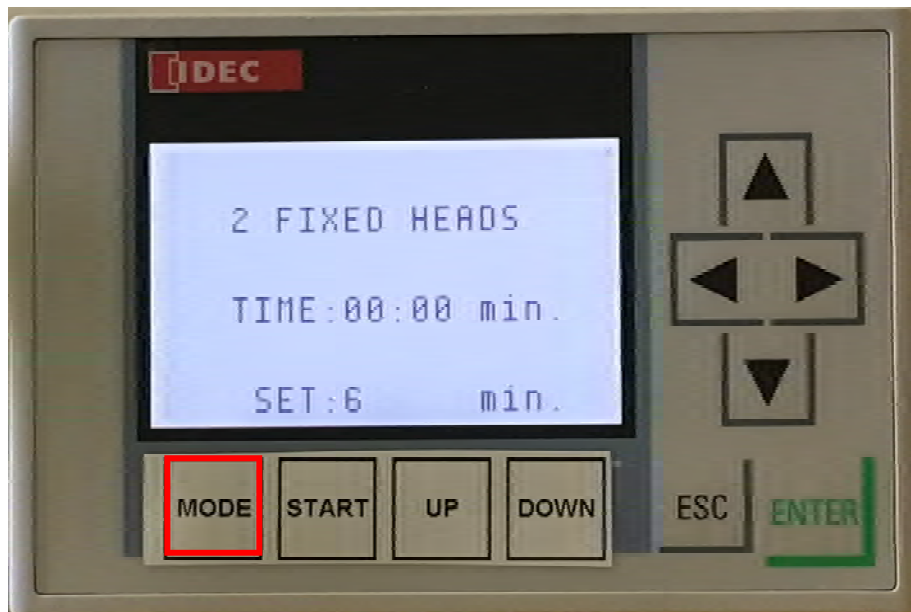

FIGURE 5
4) 2 Fixed Heads Mode. (Figure 5)